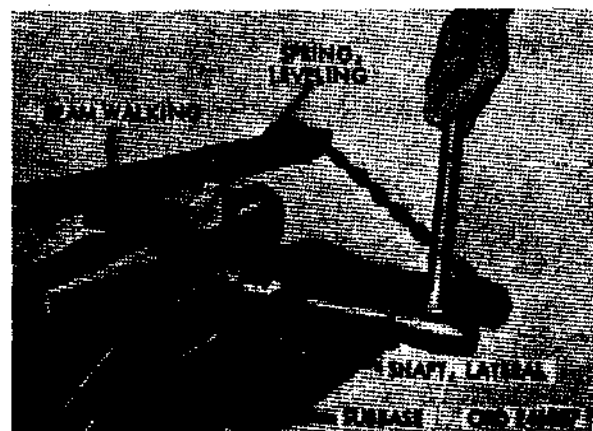

Figure 118. Assembling walking beam to subbase.
- (1) Position leveling springs in position on subbase.
- (2) Position walking beam over leveling springs and apply suitable leverage to compress leveling springs.
- (3) Drive lateral shaft (fig. 118) through subbase and walking beam with grooved side of shaft up. The groove in lateral shaft must align with rocker shaft hole in walking beam.